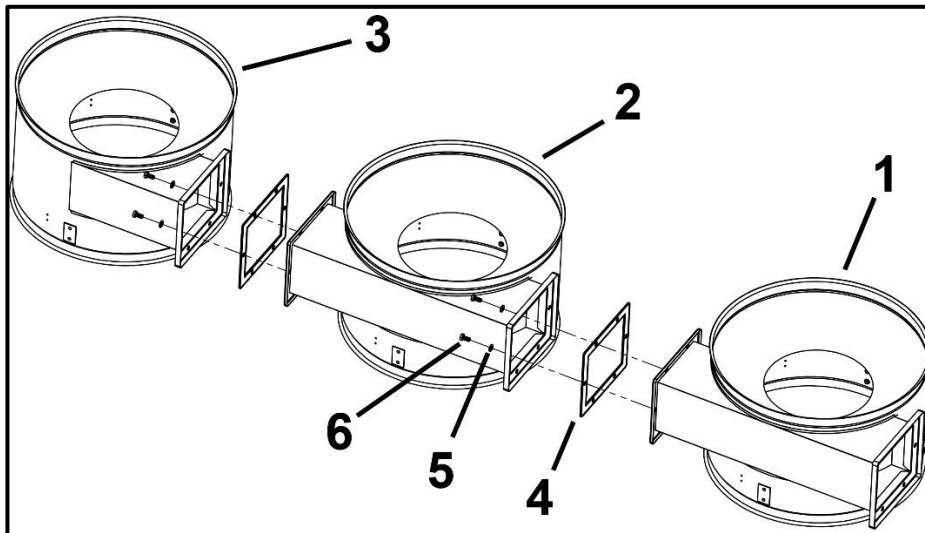

Fig. 3
- Put front separator (1), middle separator (2) and rear separator (3) together, make sure gasket (4) are in correct position between separators, then fixing by using 8pcs hex bolt M8x16 and 8pcs washers. See Fig 3.